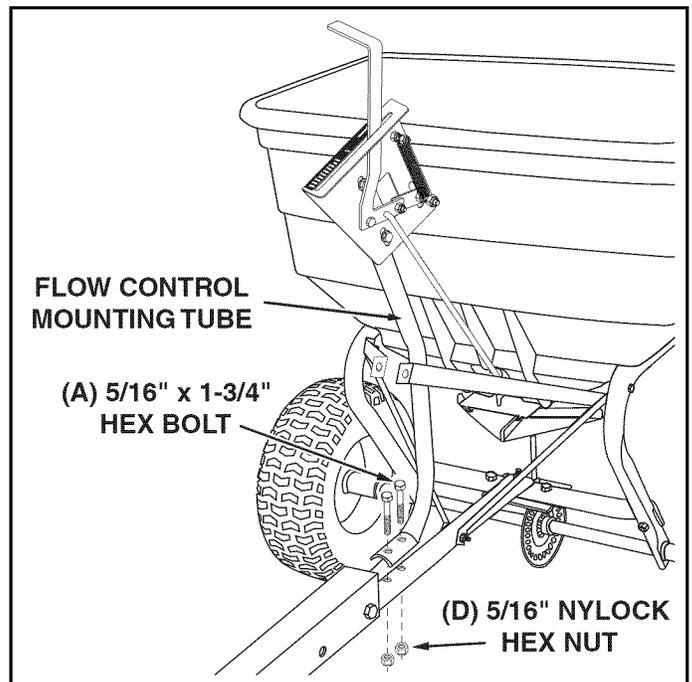

FIGURE 7
STEP 7: (SEE FIGURE 7)
- Assemble the flow control mounting tube to the hitch tube using two 5/16" x 1-3/4" hex bolts (A) and 5/16" nylock hex nuts (D). **DO NOT TIGHTEN YET.**